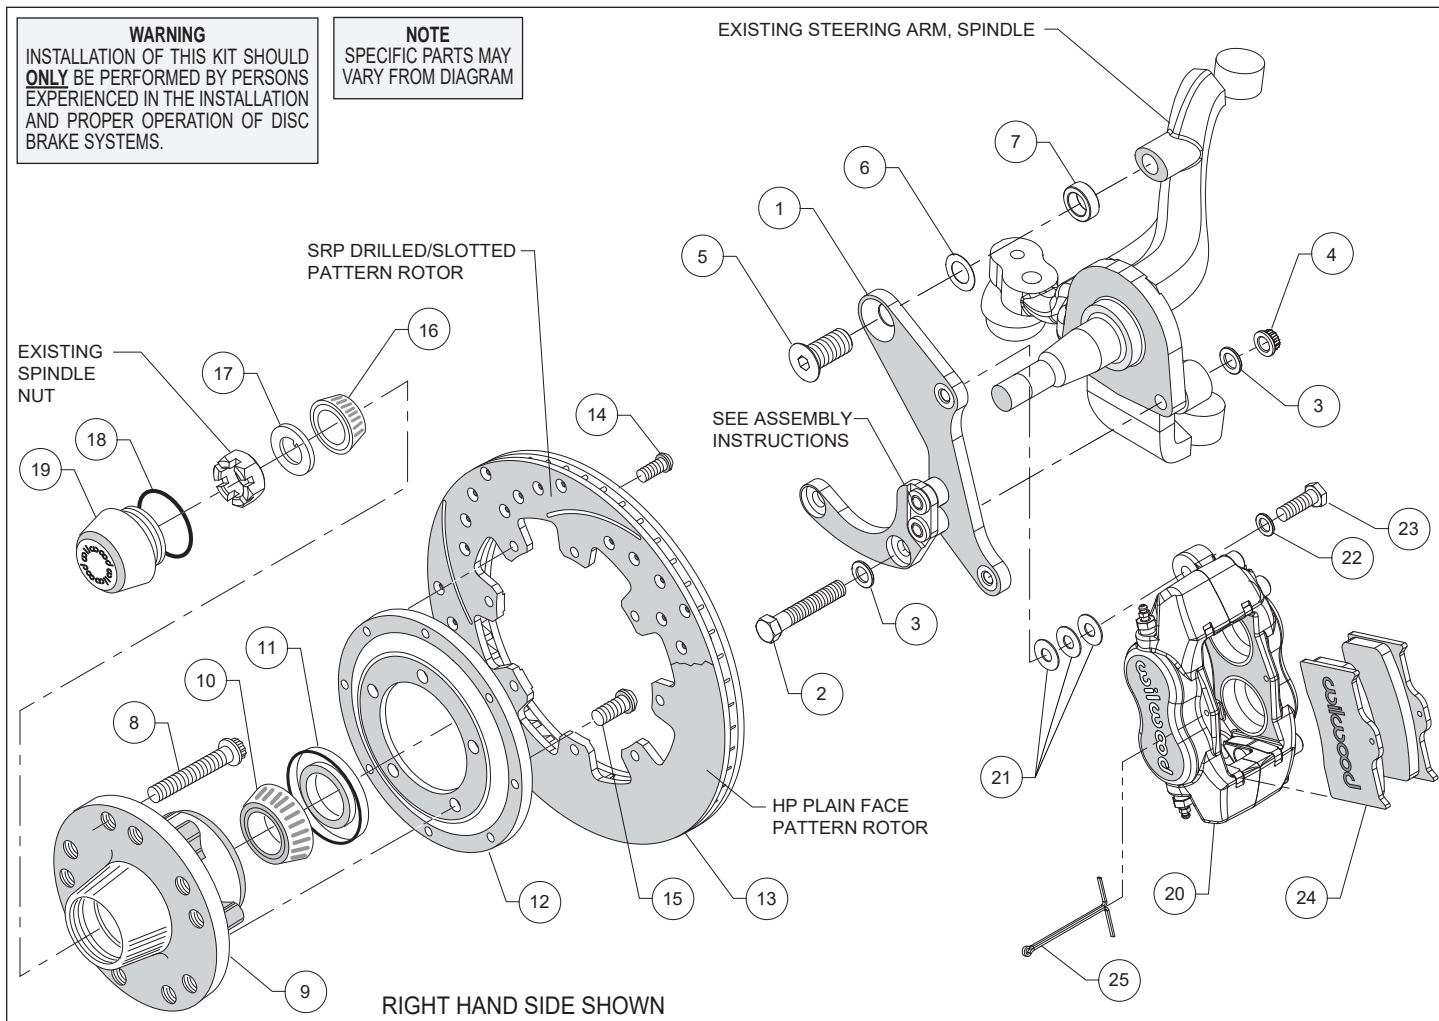
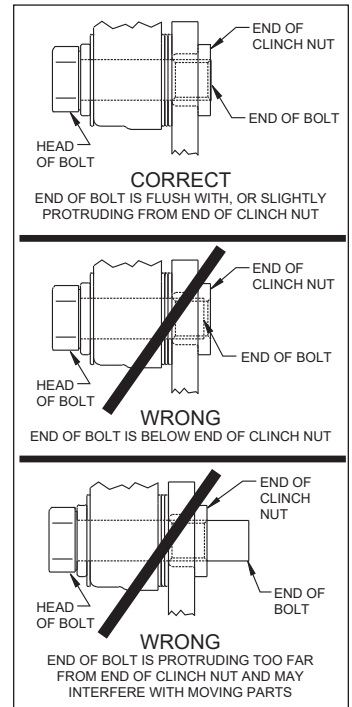

Figure 1. Typical Installation Configuration
Figure 3. Clinch Nut Engagement Diagram
Assembly Instructions (numbers in parenthesis refer to the parts list and Figure 1 on the preceding pages): **CAUTION:** All mounting bolts must fully engage clinch nuts. Be sure to check that all bolts are either flush or protruding through flanged side of clinch nut after shimming, Figure 3.
- The caliper mounting bracket (1) has been assembled at the factory for alignment purposes. Loosen the two bolts that secure the brackets together so that the bolts are hand tight only. This will enable the bracket assembly to be adjusted to accommodate various spindle tolerances during assembly. Align bracket with the two lower holes on the spindle face and attach using bolts (2), and washers (3), and secure using nuts (4), as shown in Figure 1 and Photo 1. Install bolt (5) through top of bracket while placing shim (6) and spacer (7) between bracket and spindle, Figure 1. Initially use one .015" thick shim (6) on the top bolt between the bracket and upright. Temporarily tighten the mounting bolts. Ensure that the flanged heads of the clinch nuts in the bracket are facing outboard, Photo 1. **NOTE:** The bracket must fit squarely against the mounting points on the spindle. Inspect for interference from casting irregularities, machining ridges, burrs, etc. Some spindles may require a small amount of grinding to clear the bracket assembly in the area of the bracket-to-bracket spacers.
- Check that the bracket is aligned parallel to the rotor by assembling and installing the hub/rotor per the steps below. If not, adjust by adding or subtracting shims (6) between the spacer (7) and bracket, Figure 1.
- Install wheel studs (8) into the hub (9), Photo 2. Torque to 77 ft-lb. **NOTE:** There are two five lug patterns in the hub (5 x 4.50 and 5 x 4.75). Ensure the correct hub stud pattern is being used to fit the wheel application.
- Pack the large inner bearing cone (10) with high temperature disc brake bearing grease (available from your local auto parts store) and install into the backside of the hub (9), Photo 3.
- Install the grease seal (11) by pressing into the backside of the hub (9), flush with the end of the hub, Photo 3.
- Orient the rotor (13) and the rotor adapter (12) as shown in Figure 1 and Photo 4. Attach the rotor to the adapter using bolts (14). Using an alternating sequence, apply red *Loctite*® 271 to the threads, and torque to 25 ft-lb.
- Mount the adapter/rotor assembly (12/13) to the hub (9) using bolts (15), as shown in Figure 1 and Photo 5. Using an alternating sequence, apply red *Loctite*® 271 to the threads, and torque to 45 ft-lb.
- Pack the small outer bearing cone (16) with high temperature disc brake bearing grease and install into hub (9). Slide the hub/rotor assembly onto the spindle. Secure using spindle washer (17) and OEM spindle nut, Photo 6. Adjust bearings per OEM specifications. Install saved OEM nut lock (if any) and a new cotter pin (not supplied).
- Screw dust cap (19) into hub (9), Photo 7. Friction created by the o-ring (18) on the dust cap keeps it from unscrewing. **NOTE:** The O.D. of the existing OEM spindle washer may be larger than the I.D. of the dust cap not allowing it to seat against the hub face. Therefore, use the spindle washer (17) supplied with the kit instead of the OEM washer.
- NOTE:** Please reference the caution statement at the beginning of the assembly instructions. Mount the caliper (20) onto the caliper mounting bracket (1) using bolts (23) and washers (22), as shown in Figure 1. Initially place two .035" thick shims (21) on each bolt between the caliper and the bracket, Photo 8. Temporarily tighten the mounting bolts and view the rotor (13) through the top opening of the caliper. The rotor should be centered in the caliper, Photo 9. If not, adjust by adding or subtracting shims between the bracket and the caliper. Always use the same amount of shims on each of the two mounting bolts. **NOTE:** The end of each bolt must be flush with or slightly protruding from the head of the clinch nut, as shown in Figure 3. If necessary place spare shims between washer (22) and caliper mounting ear to achieve the proper clinch nut engagement. Once the caliper alignment and clinch nut engagement are correct, remove the bolts one at a time, apply red *Loctite*® 271 to bolt threads, and torque to 40 ft-lb.
- Install the disc brake pads (24) into the caliper, with the friction material facing the rotor (13), and secure in place using cotter pin (25), Photo 10.